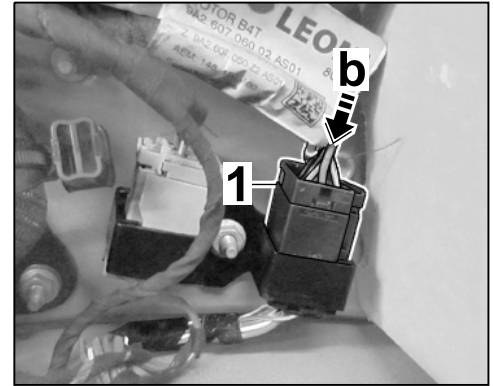

Figure 12
- 2.3.5 Connect electric plug connection ⇒ *Figure 12 -1-* (⇒ *Figure 12 -b-*).